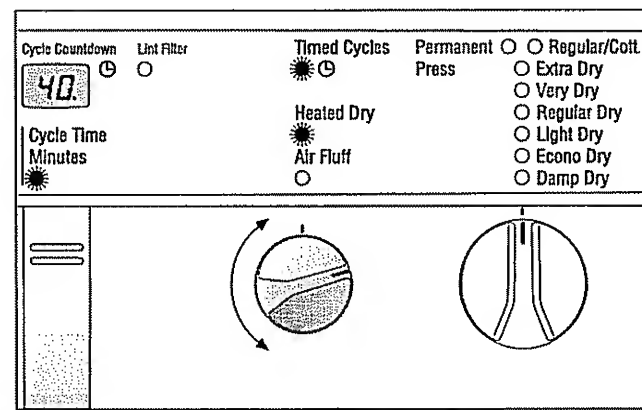

Figure 4.
- To use Time Cycles (dryer runs for selected length of time) activate by turning the time program selector (see Figure 4):